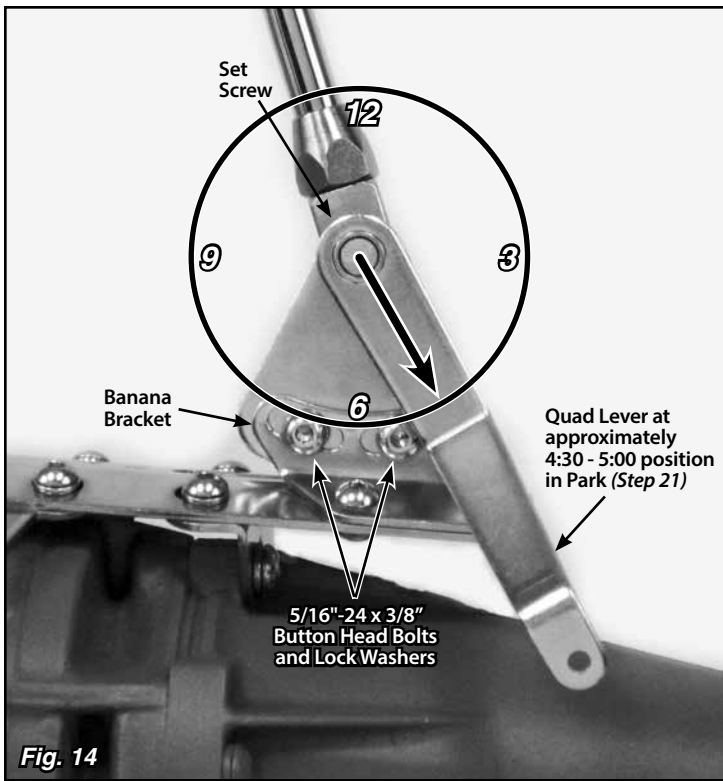

Fig. 14
Step 20: Make sure the two 5/16"-24 x 3/8" button head bolts and lock washers that attach the driver side banana bracket to the shifter assembly (in the curved, slotted holes) are tight. Before tightening the shifter assembly down to the main plate, move the shifter lever through all the gear positions. Make sure that the shifter lever and knob do not come in contact with the dash or the seat. The shifter assembly can be tilted forward or backward if needed by loosening the 5/16"-24 x 3/8" button head bolts and lock washers in the curved, slotted holes in the driver side banana bracket. **Fig. 14**
Step 21: Put the shifter lever into the Park position and check the position of the quad lever. It will need to be pointing to approximately the 4:30 - 5:00 position. If it is not, loosen the set screw in the top of the quad lever with a 1/8" Allen wrench and slide the quad lever off of the shaft. Reposition it on the shaft at approximately the 4:30 - 5:00 position, and retighten the set screw. **Fig. 14**
Double check to make sure that the bolts connecting the **driver** side banana bracket to the shifter assembly are tight. **Fig. 14**